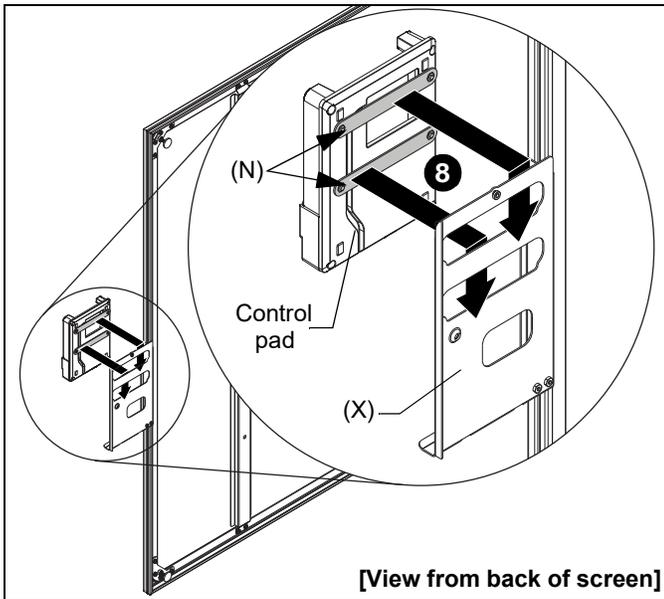

Figure 51
8. Install control pad (included with projector) by slipping the control pad plates (N) that were installed on back of control pad into the slots on the control pad bracket (X) and allow control pad to hang from the control pad plates. (See Figure 51)